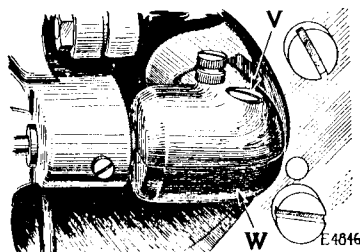
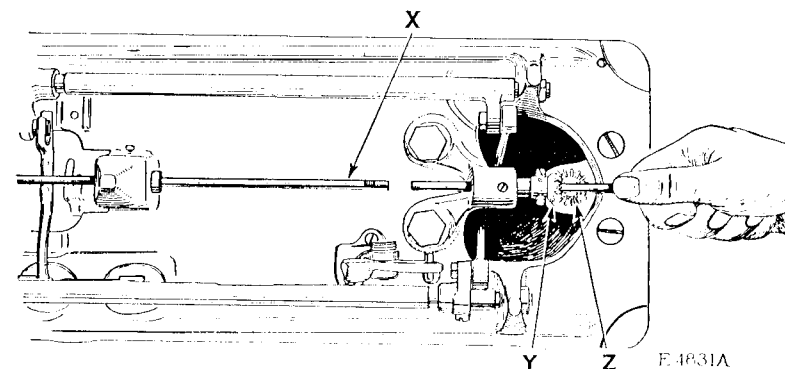

FIG. 22. VIEW OF UNDERSIDE OF MACHINE, SHOWING GEAR CASE
FIG. 23. REMOVING AND REPLACING SEWING HOOK SHAFT
Remove the sewing hook as instructed on page 19. Take out the screw (V, Fig. 22) and remove both sections of the gear case (W, Fig. 22), then wipe the grease away from the gears.
Before removing the hook shaft (X, Fig. 23) from the machine, the gears (Y and Z, Fig. 23) should be marked, using chalk or a red pencil to mark one of the teeth of the gear (Y) and the space of the gear (Z) in which the marked tooth meshes. This is important, as the gears may become dislodged when removing the hook shaft, and the marks will enable you to retain the original relative positions of the gears.
To remove the hook shaft, loosen the two set screws in the gear (Y, Fig. 23), then insert the new hook shaft into the gear
in Fig. 23. By removing the old shaft in this manner, the relative positions of the gears (Y and Z) will not be disturbed. When placing the new shaft into position in the machine, see that the flat portion near one end of the shaft is at the right so that one of the set screws in the gear (Y, Fig. 23) will bear against it when the gear is fastened in position on the shaft. The shaft should be set so that its left end is flush with the body of the sewing hook as shown at F, in Fig. 17, page 16. It is advisable to remove the rotating hook section as instructed on page 17, and take out the bobbin case holder so that you can see whether the end of the shaft is flush with the body of the hook. When the shaft is correctly positioned, securely tighten the two set screws in the gear (Y), taking care that one of the screws bears against the flat portion of the shaft. Then time the sewing hook as instructed on pages 17 and 18, and replace the bobbin case holder and rotating hook section. Pack both halves of the gear case (W, Fig. 22) with Singer Lubricant, replace the gear case and securely fasten it in position by means of the screw (V, Fig. 22).